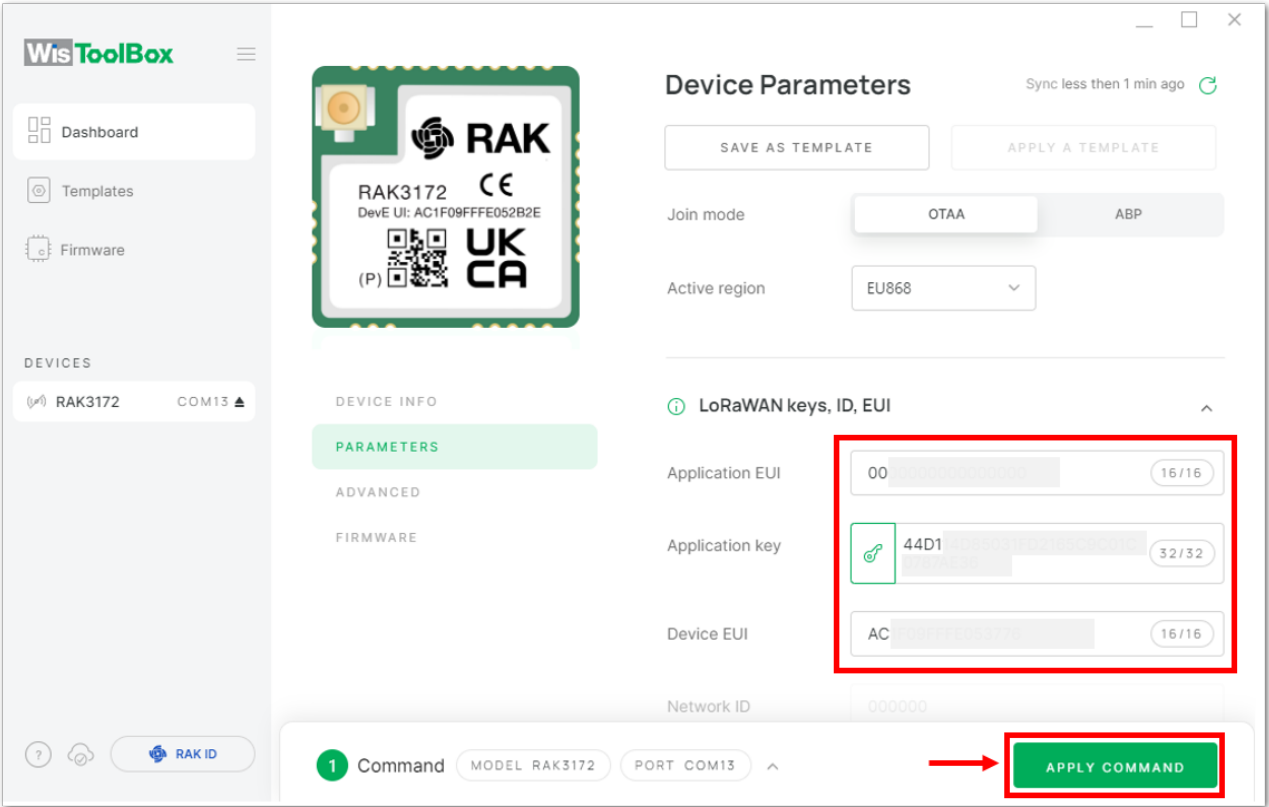

Figure 66: Used credentials from your console in WisToolBox dashboard
8. Then go back to console where your RAK3172 End device is created previously. Then copy all the credentials from there. Those will be the ones to be used also in the WisToolBox dashboard. Once encoded into the dashboard, click **APPLY COMMAND** to update your device as shown in **Figure 66**.